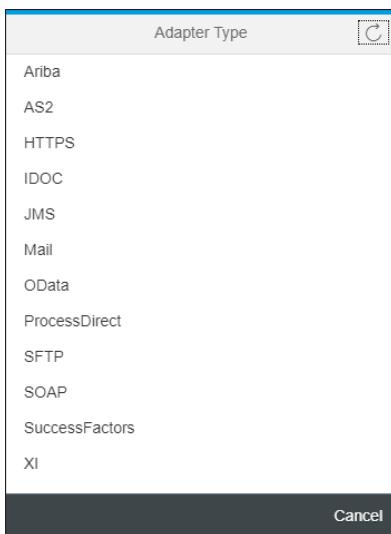

Figure 2.26 Offered Sender Adapter Types
3. A dialog box opens where you can select the sender **Adapter Type** (see Figure 2.26).